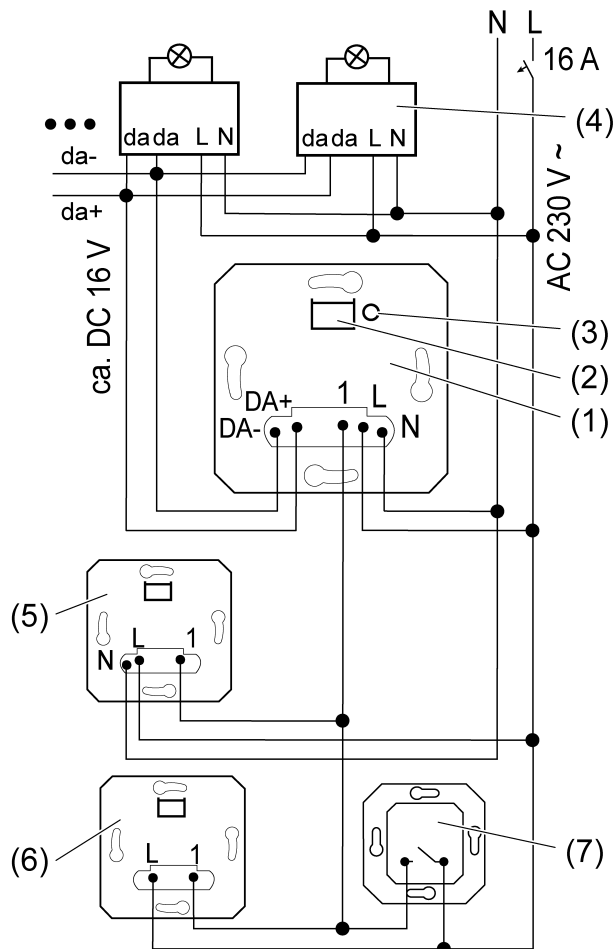

Figure 1: Connection diagram with optional extensions
- Connect the DALI insert (1) and the DALI subscriber (4) according to the connection diagram (Figure 1).
- i** The connected lighting can also be switched without a cover by briefly pressing the **Test** button (3).